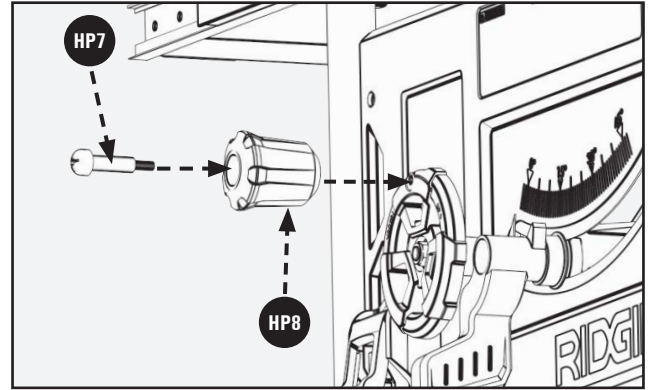

FIGURE 6
1. Insert Wheel Handle Shoulder Screw (HP7) into Height Adjustment Wheel Knob (HP8) as shown in Figure 6.
After installing Height Adjustment Knob as shown in Figure 6,